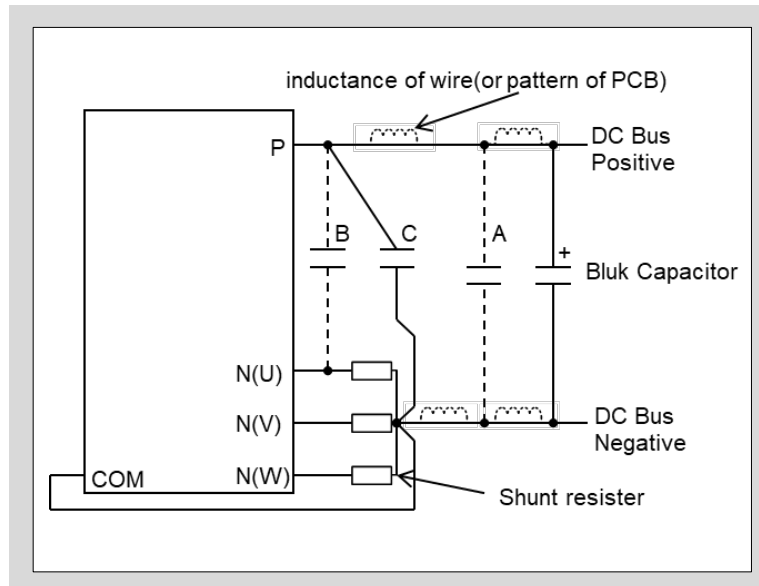

Fig. 4-1 Recommended wiring of shunt resistor and snubber capacitor
- External shunt resistors are connected to detect overcurrent (OC) condition and phase current.
- As shown in the Fig.4-1, snubber capacitors should be connected at the right location to suppress surge voltage effectively.
- Connecting the snubber capacitor at location "C" is recommended. If the snubber capacitor is connected at location "A" as shown in the Fig.4-1, the snubber capacitor cannot suppress the surge voltage effectively because the wiring inductance is not negligible. If the capacitor is connected at the location "B", the charging and discharging current of snubber capacitor will flow through the shunt resistor. This will impact the current detection signal and the OC protection level will be lower than the design value. Although the surge voltage suppression effect when the snubber capacitor is connected at location "B" is greater than that at location "A" or "C", location "C" is recommended considering the impact to the current detection accuracy.